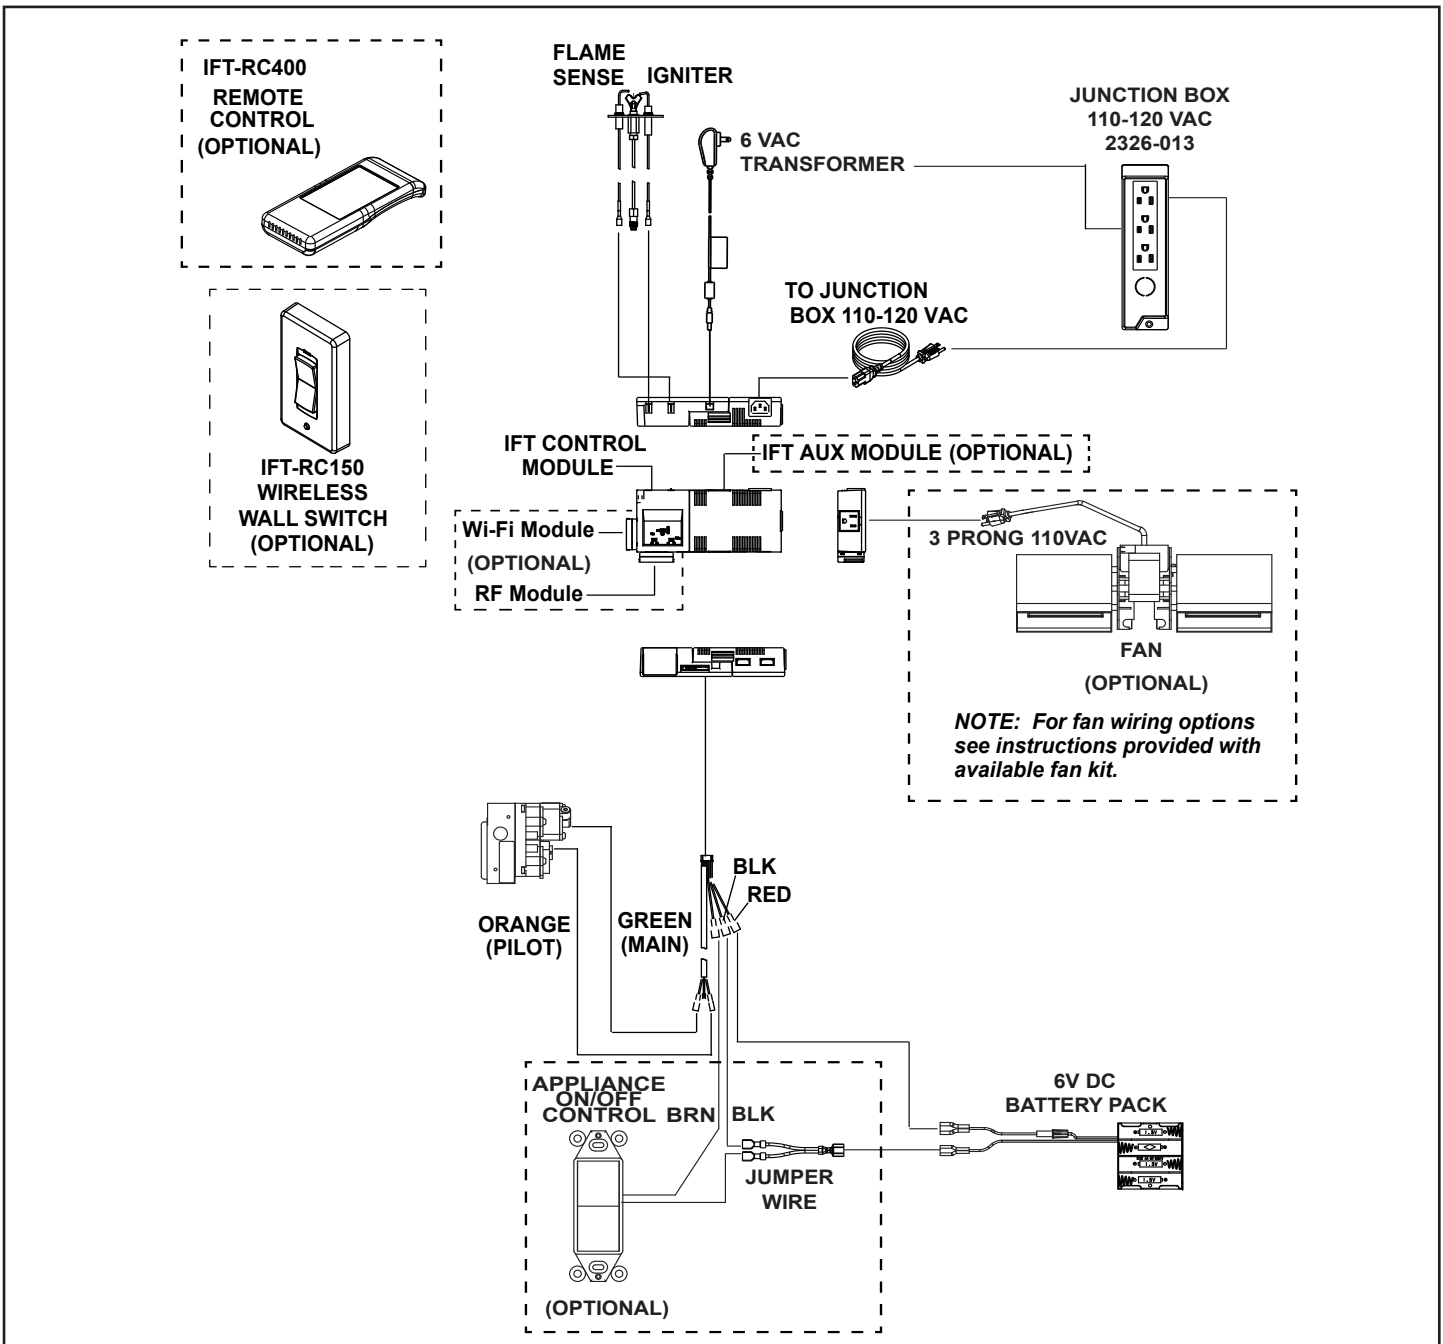

Figure 6.3 IntelliFire Pilot Ignition (IPI) Wiring Diagram
- Refer to Figure 6.3, IntelliFire Touch Wiring Diagram.